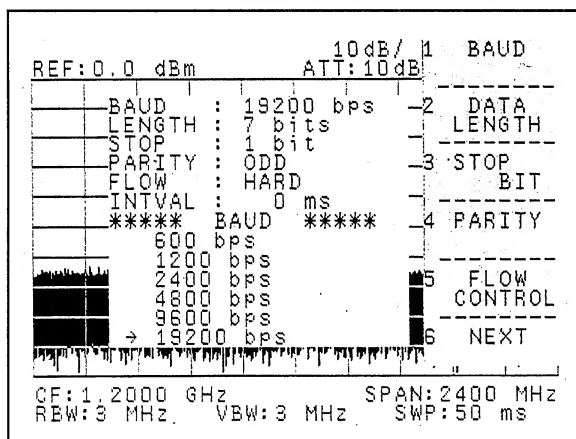

Figure 5-33 Transmission speed setting
- ③ Data length setting. Press **2** **DATA LENGTH** on the display softmenu shown in Figure 5-33. Each time this softkey is pressed, the "→" will move, enabling the data length to be select.